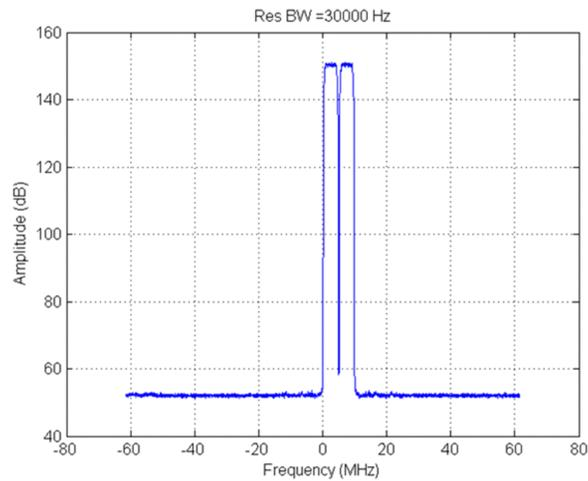
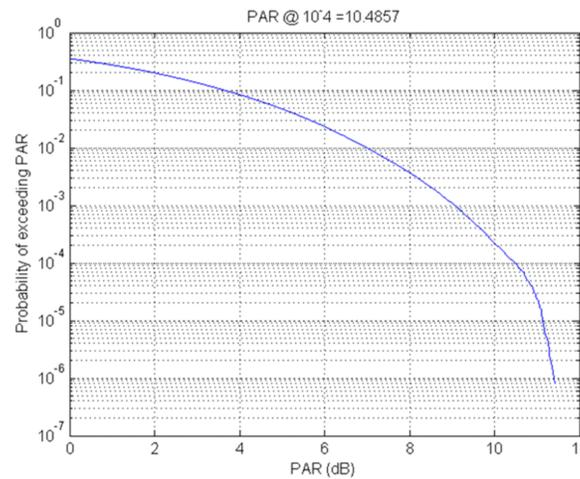

Figure 11. FFT of Two Carrier WCDMA TM1 Pattern
Figure 12. CCDF of Two Carrier WCDMA TM1 Pattern
4. Click the **Generate and Save** button. The CCDF and FFT windows display the signal characteristics as shown in Figure 11 and Figure 12. Also the generated pattern is saved as output_CommSignal.tsw in the same folder as the executable.